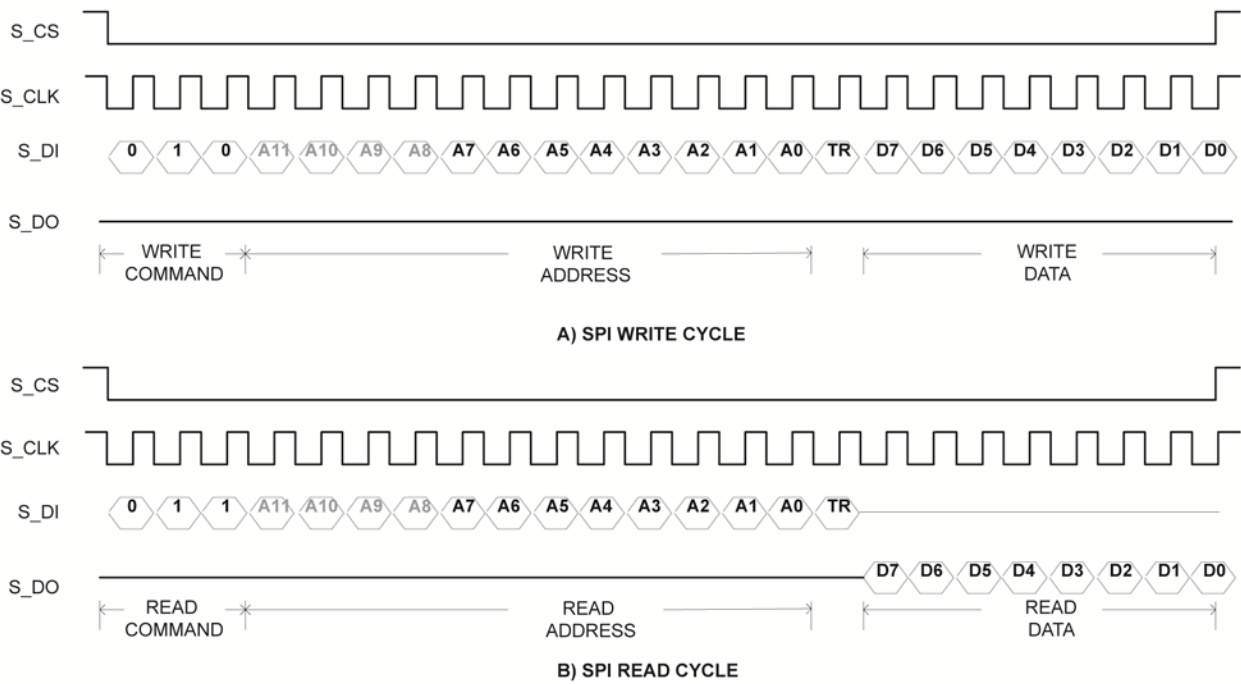
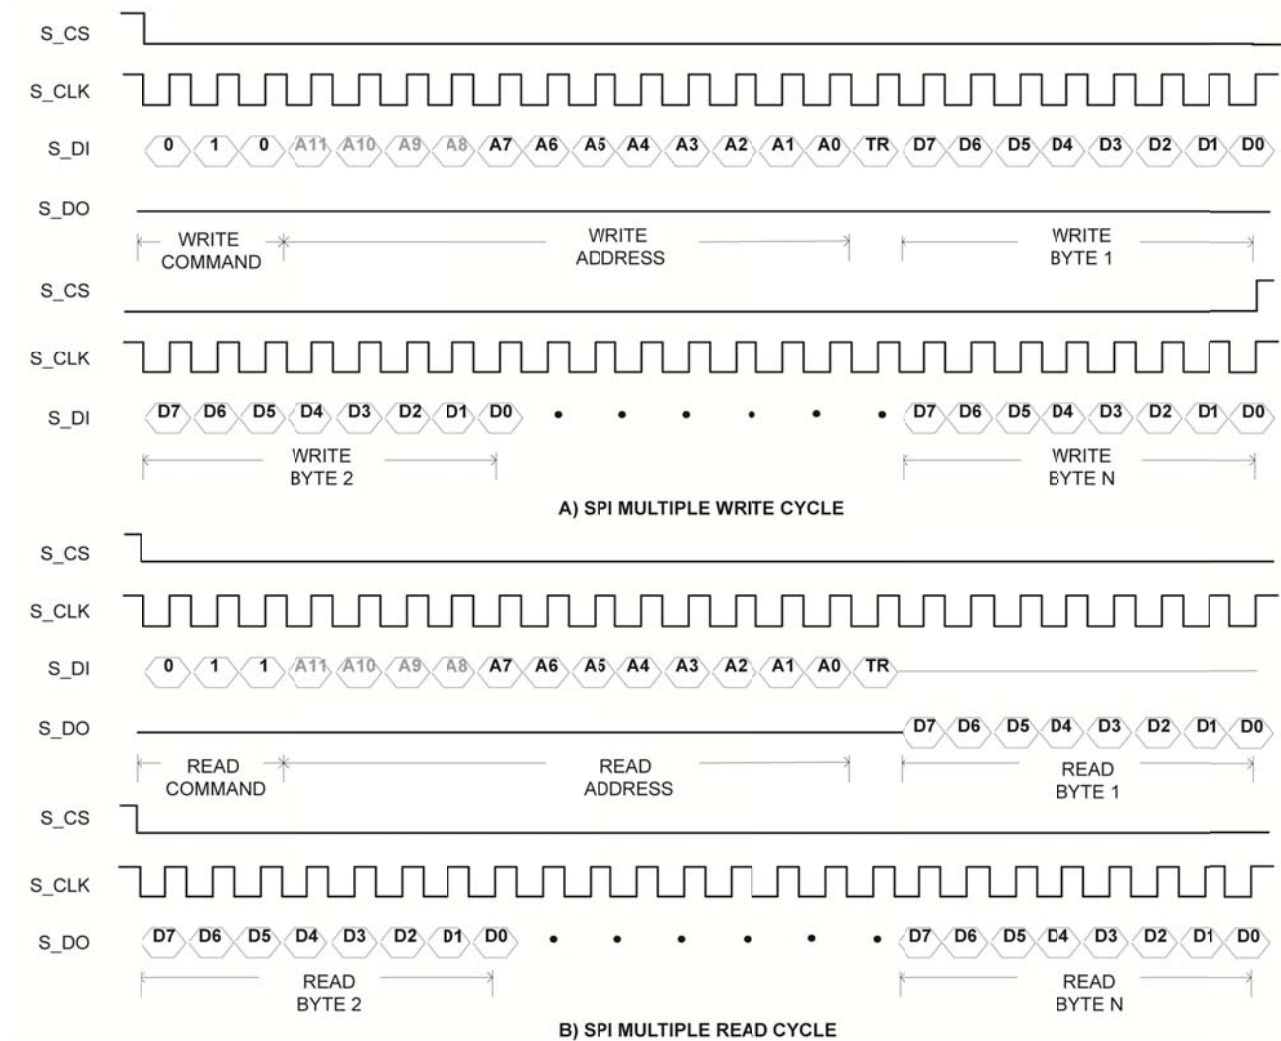

Figure 9. SPI Access Timing
Figure 10. SPI Multiple Access Timing
3. Write configuration data to registers using a typical SPI write data cycle as shown in Figure 9 or SPI multiple write as shown in Figure 10. Note that data input on SDA is registered on the rising edge of SCL clock.
4. Registers can be read and the configuration can be verified with a typical SPI read data cycle as shown in Figure 9 or a multiple read as shown in Figure 10. Note that read data is registered out of SPIQ on the falling edge of SCL clock.